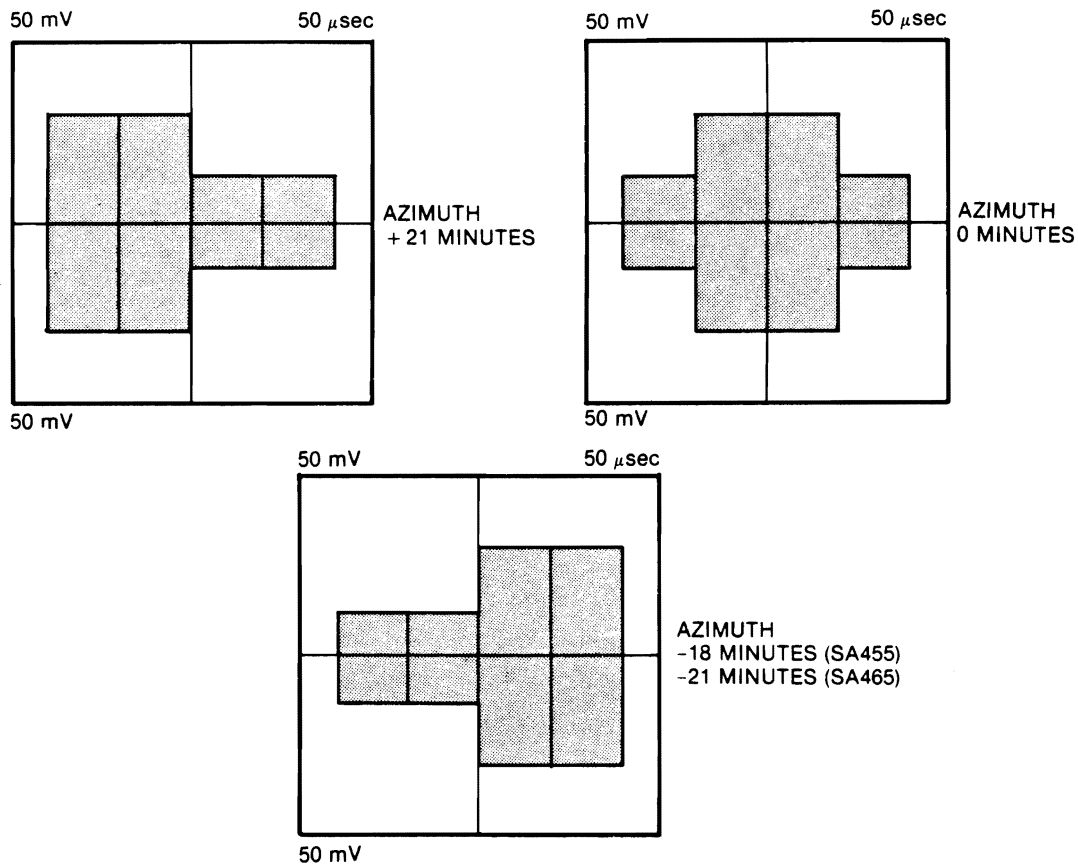

**FIGURE 5-7. STEPPER MOTOR MOUNTING SCREWS**
- f. Loosen two mounting screws, which hold stepper motor to base casting (see figure 5-7).
- h. When lobes are of equal amplitude, tighten motor plate mounting screws (see figure 5-7).